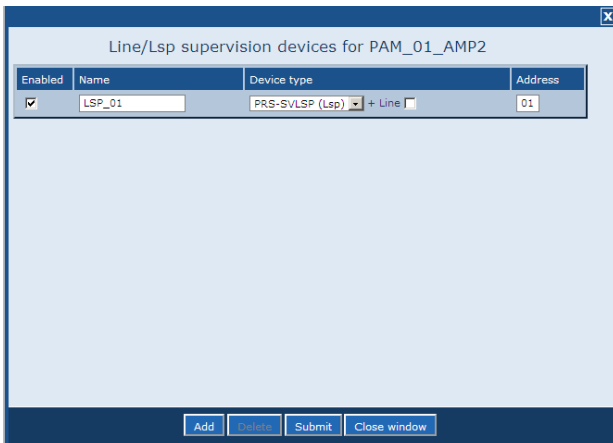

figure 43.18: Add supervision device, step 4
- Click the *OK* button to add the supervision device to the audio output of the power amplifier. A screen similar to the one in figure 43.18 appears.